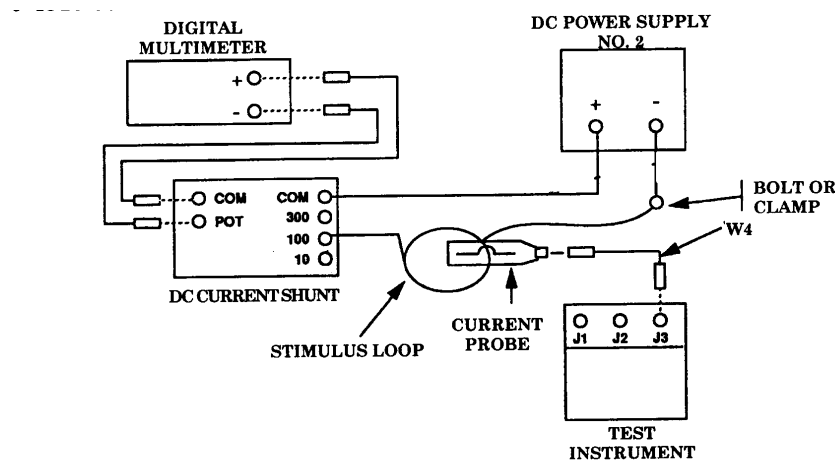

Figure 2. VTM dc current (high) - equipment setup.
- (11) Connect equipment as shown in figure 2.
Fabricate a current stimulus loop as shown in figure 2. The loop design should be 20 turns of No. 10 insulated copper wire with a bundle diameter of the turns being no more than 1 inch. The inside diameter of the loop should be 6 inches  $\pm$ 1 inch. Care should be taken to ensure that the loop does not overheat.